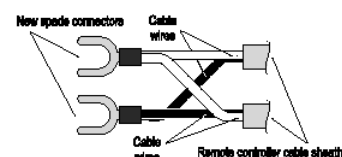

Fig.9
- ✂ Cut the spade connectors from two of the controller cables to be connected to the appliance (4 spade connectors should be cut off) and discard. Connect the wires from these two cables and terminate into two new spade connectors as shown in fig.9.
- ✂ Cut the spade connectors from all four of the controller cables to be connected to the appliance (8 spade connectors should be cut off) and discard. Connect the wires of two cables and terminate into two new spade connectors as shown in fig.9. Repeat this for the remaining two cables. Spade connectors are available from your local electrical component retailer.